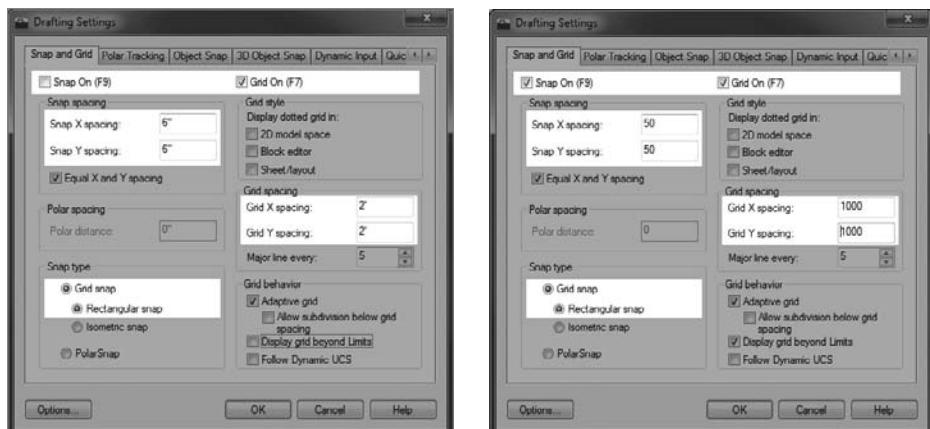

FIGURE 3.12 New settings on the Snap And Grid tab of the Drafting Settings dialog box using Imperial units (left) and Metric units (right)
1. Right-click the Grid Display button on the status bar, and click Settings to open the Drafting Settings dialog box one more time. The Drafting Settings dialog box opens and the Snap And Grid tab is active. The settings in both the Grid and Snap areas include X and Y Spacing settings. Notice that they're all set for a spacing of ½" (10).
2. In the Grid Spacing area, click in the Grid X Spacing text box and change ½" (10) to 2' (1000) as shown in Figure 3.12. Then click in the Grid Y Spacing text box. It automatically changes to match the Grid X Spacing text box. If you want different Grid X and Grid Y Spacing values, you must uncheck the Equal X and Y Spacing option in the Snap Spacing area.
3. In the Snap section, change the Snap X Spacing setting to 6 (50) as shown in Figure 3.12. The inch sign isn't required. Then click the Snap Y Spacing input box or press the Tab key. The Snap Y spacing automatically changes to match the Snap X Spacing setting.
4. In the Snap Type area, be sure Grid Snap and Rectangular Snap are selected (Figure 3.12).
6. The Snap On and Grid On check boxes at the top of the dialog box should be selected. If they aren't, click them. Your Snap And Grid tab should look like Figure 3.12.
7. Click OK. The new 2' (1000 mm) grid is now visible. Move the cursor around on the grid — be sure Snap is on. (Check the Snap Mode button on the status bar; it's pressed when Snap is on.) Notice the coordinate readout. It's displaying coordinates to the nearest 6" (50 mm) to conform to the new 6" (50) snap spacing. The cursor stops at several snap points between each grid dot.